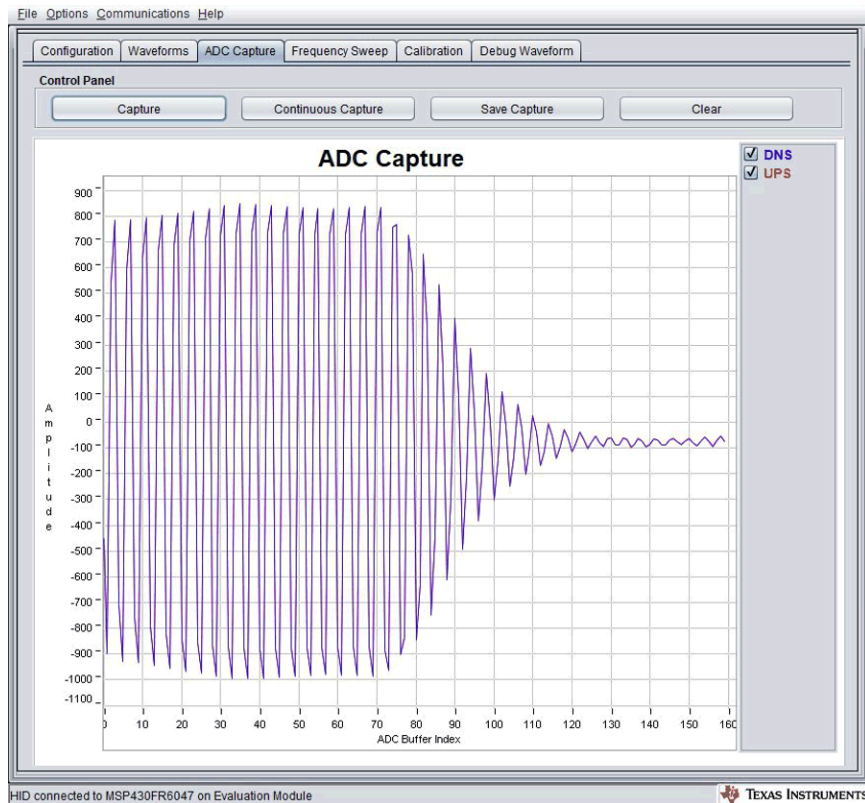
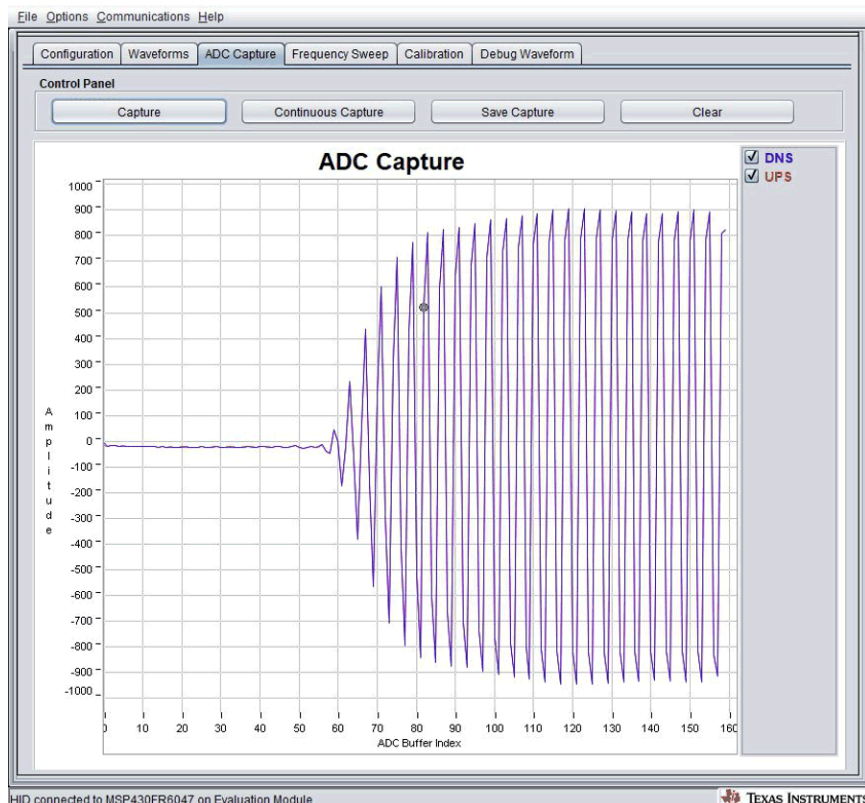

Figure 11. Gap Between Pulse Start and ADC Capture Set Too Long
Figure 12. Gap Between Pulse Start and ADC Capture Set Too Short
- Adjust the Gap between pulse start and ADC capture. Figure 11 shows an example where the gap is set too long. Figure 12 shows an example where the gap is set too short.